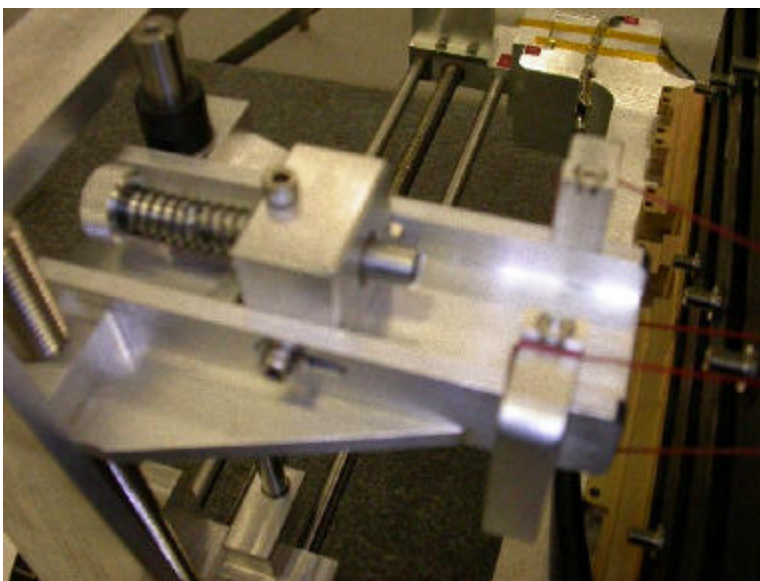

Figure 5.3-3 – Retract Hard Stop
4. Retract the hard-stop on the (-) Carriage as shown in Figure 5.3-3.